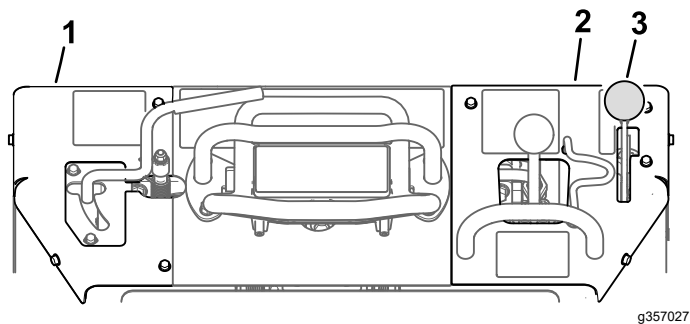

Figure 18
8. Install the left and right control panel covers, ensuring that the wire harness goes through the notches (see Figure 18).